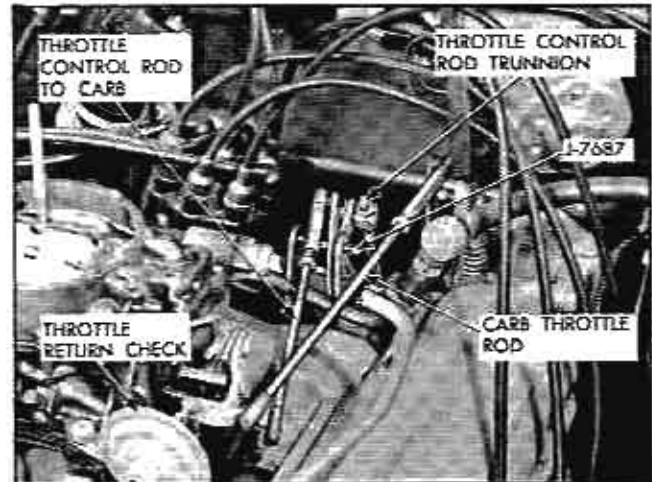

Fig. 34 Linkage Pin Installed
2. Loosen both nuts at transmission throttle control rod trunnion (Fig. 34).
4. Shut off engine and install linkage adjustment pin J-7687 through holes in throttle control lever and bracket (Fig. 34).
5. With throttle valves fully closed, loosen lock nut and adjust length of transmission throttle control rod to carburetor (Fig. 34) so that gauge pin is free in hole. Leave pin installed and tighten lock nut securely. Recheck freeness of gauge pin in holes.
8. Loosen lock nut on carburetor throttle rod (Fig. 34).